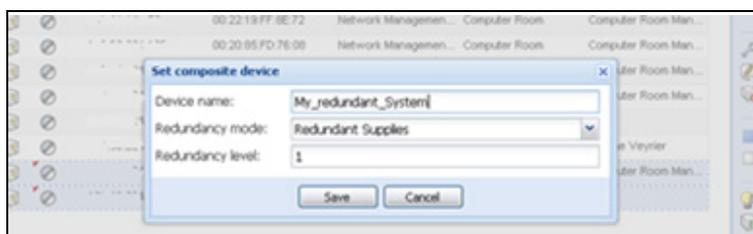

Figure 103. Set Composite Device Dialog Box
5. In the dialog box, specify a device name, redundancy mode, and level (see Figure 103):